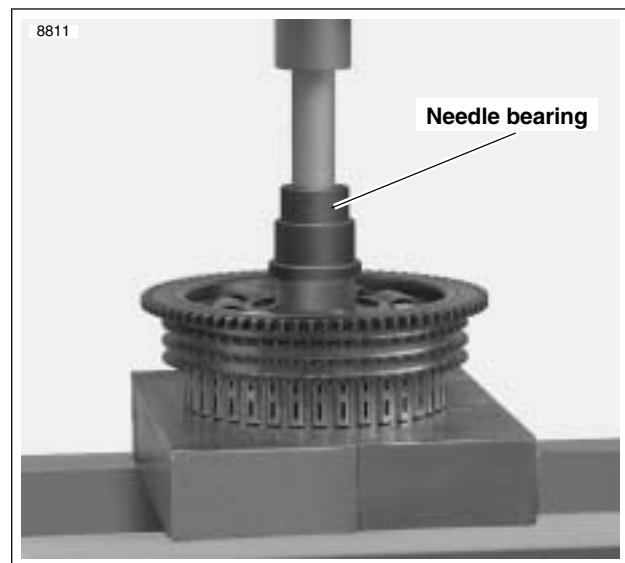

Figure 6-29. Installing Clutch Shell Needle Bearing
5. See Figure 6-29. Place clutch shell on support blocks with sprocket side facing up.